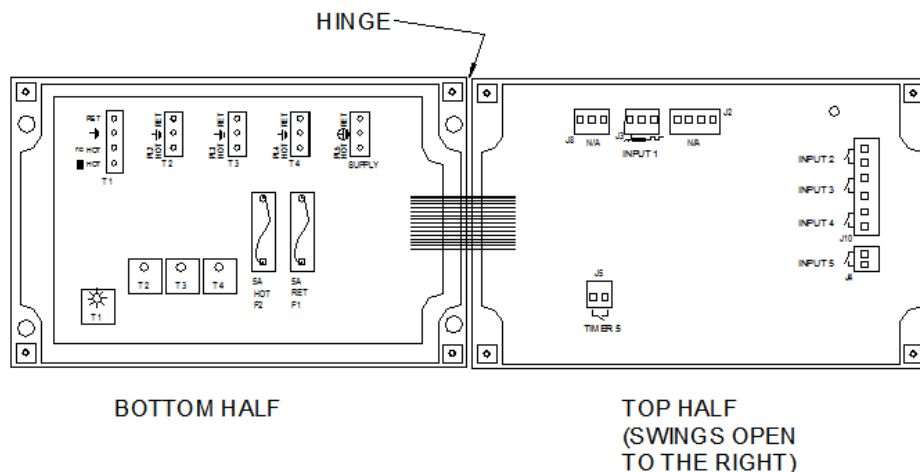

Fig. 1
Loosen the four (4) screws on the front of the controller and carefully swing the top of the case to the right (*Fig. 1*).